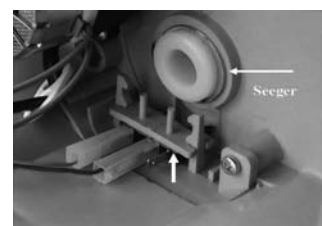

Fig. 12
parts holding the al micro switch are intact. (Fig. 12).
Open the box and check (Fig. 12): that the micro switch is intact; that it is correctly positioned; the correct positioning of the terminals; that the connection wires are intact; that the lever of the micro switch is intact.
- The cam is out of position. Open the box (Fig. 12) and check that the metal seeger holding the cam is intact and well positioned in its slot.
In fig. 12 the micro switch, its mechanical fixing and control details and the terminals connecting it to the controller can be seen clearly.